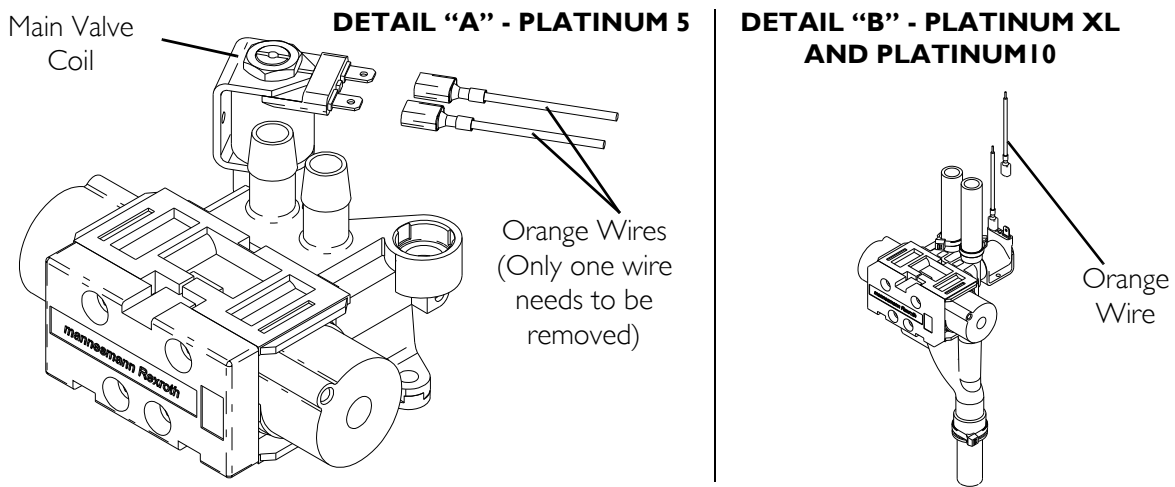

FIGURE 24.2 High Pressure Test
NOTE: For this procedure, refer to FIGURE 24.2.
2. The main valve coil alarm should activate within 40 seconds. Refer to SensO2 Alarm Threshold on page 90 for shutdown mode (FIGURE 24.2).